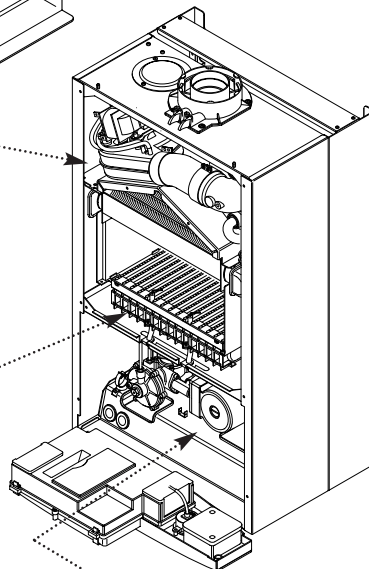

Fig. 58
13. Undo the screws securing the burner to the injector manifold. Draw the burner out of the combustion box, pulling the electrode grommets from the slots in the combustion box lower panel (Fig. 58).
14. Disconnect the electrode leads and grommets from the electrodes. Completely remove the burner (Fig. 58).